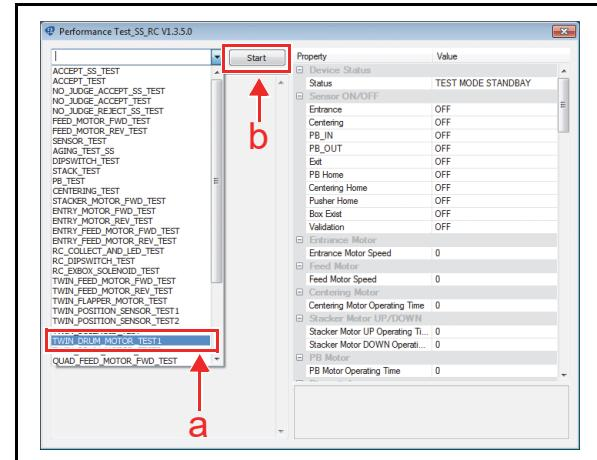

**Figure 6-48 Solenoid Test (RT Transport) 2**
5. Confirm the “ON/OFF” indication in the “RC-Solenoid (RC-Twin)” area (Figure 6-48 a) is switched as Solenoid moves automatically.
6. Click the “Stop”  Screen Button (Figure 6-48 b) to end the test.